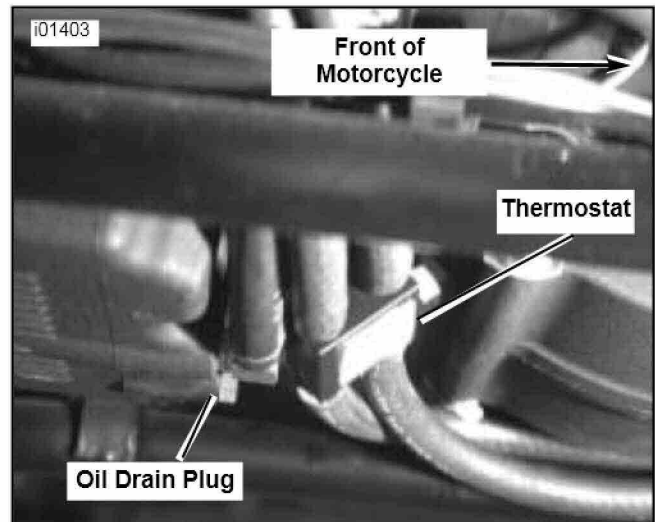

Figure 5. Thermostat Mounting Location
- See Figure 5. The thermostat will be installed in this area. When cutting the hoses, make sure the thermostat will not be positioned where it blocks the oil drain plug. Cut the lines, slide the clamps over the hoses and slide the hoses over the thermostat nipples. Tighten clamps securely. Continue installation at the appropriate section, 1340 (Evolution) or Twin Cam for your model motorcycle.
15. See Figure 5. The thermostat will be installed in this area. When cutting the hoses, make sure the thermostat will not be positioned where it blocks the oil drain plug. Cut the lines, slide the clamps over the hoses and slide the hoses over the thermostat nipples. Tighten clamps securely. **Continue installation at the Twin Cam section of this instruction sheet.**